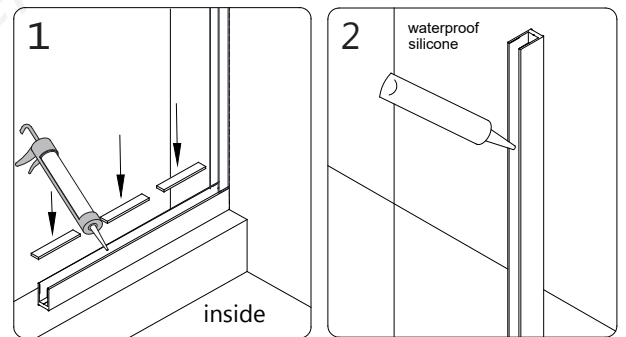

Fig 14
14. Add several 2" pieces of the **PVC Glass Spacer (0.5mm) (#34)** into the **Bottom U-channel** to protect the bottom edge and corners of the glass. Apply a good quality mildew-resistant silicone into both U-channels. (**Fig 14**)